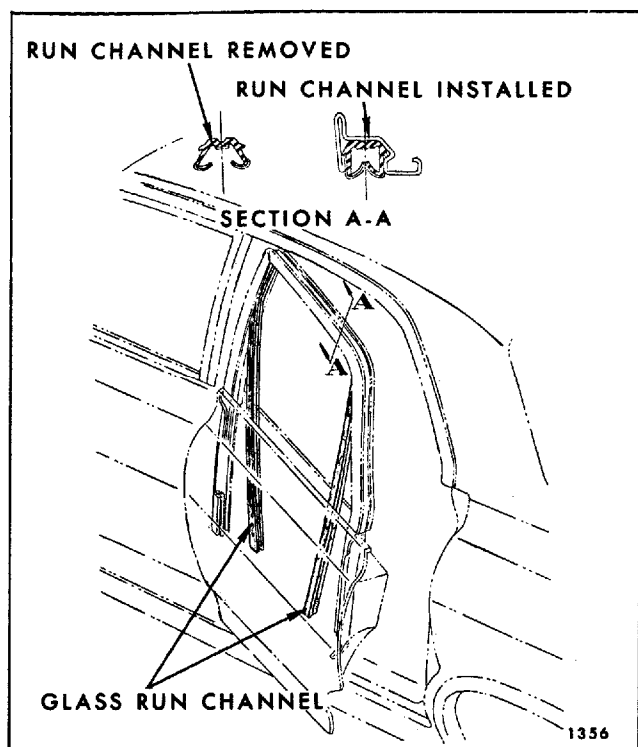

Fig. 7-152—Glass Run Channel - "A" Closed Styles
3. With finger pressure, squeeze run channel together and gently pull run channel out of rear door upper frame and remove from door. (See Fig. 7-152).